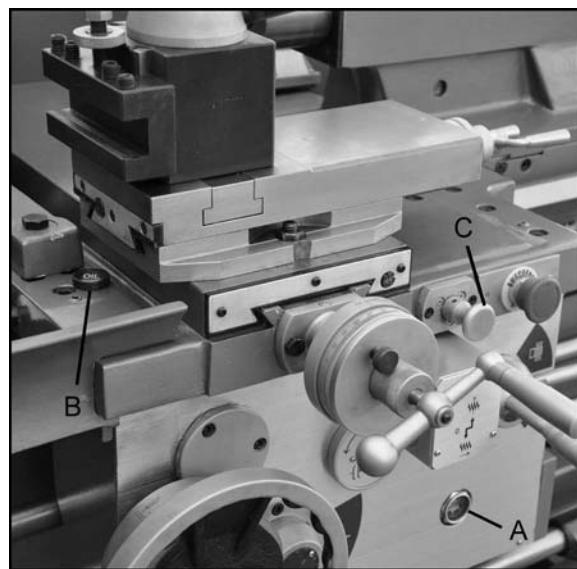

Figure 10
3. **Apron** – Oil must be between indicator marks in the oil sight glass (A, Figure 10). Top off with SAE 20W. Remove oil plug (B, Figure 10) to fill. To drain, remove drain plug on bottom of apron.
Drain oil completely and refill after the first three months of operation. Then, change oil in the apron annually. Pull knob (C, Figure 10) on the one-shot lube system and hold for several seconds to allow oil to fill the pump. When the knob is released, oil will flow through various oil lines to lubricate the ways and cross slide surface. Perform this twice daily or as needed. When the oil level is below the indicator mark, oil must be added.